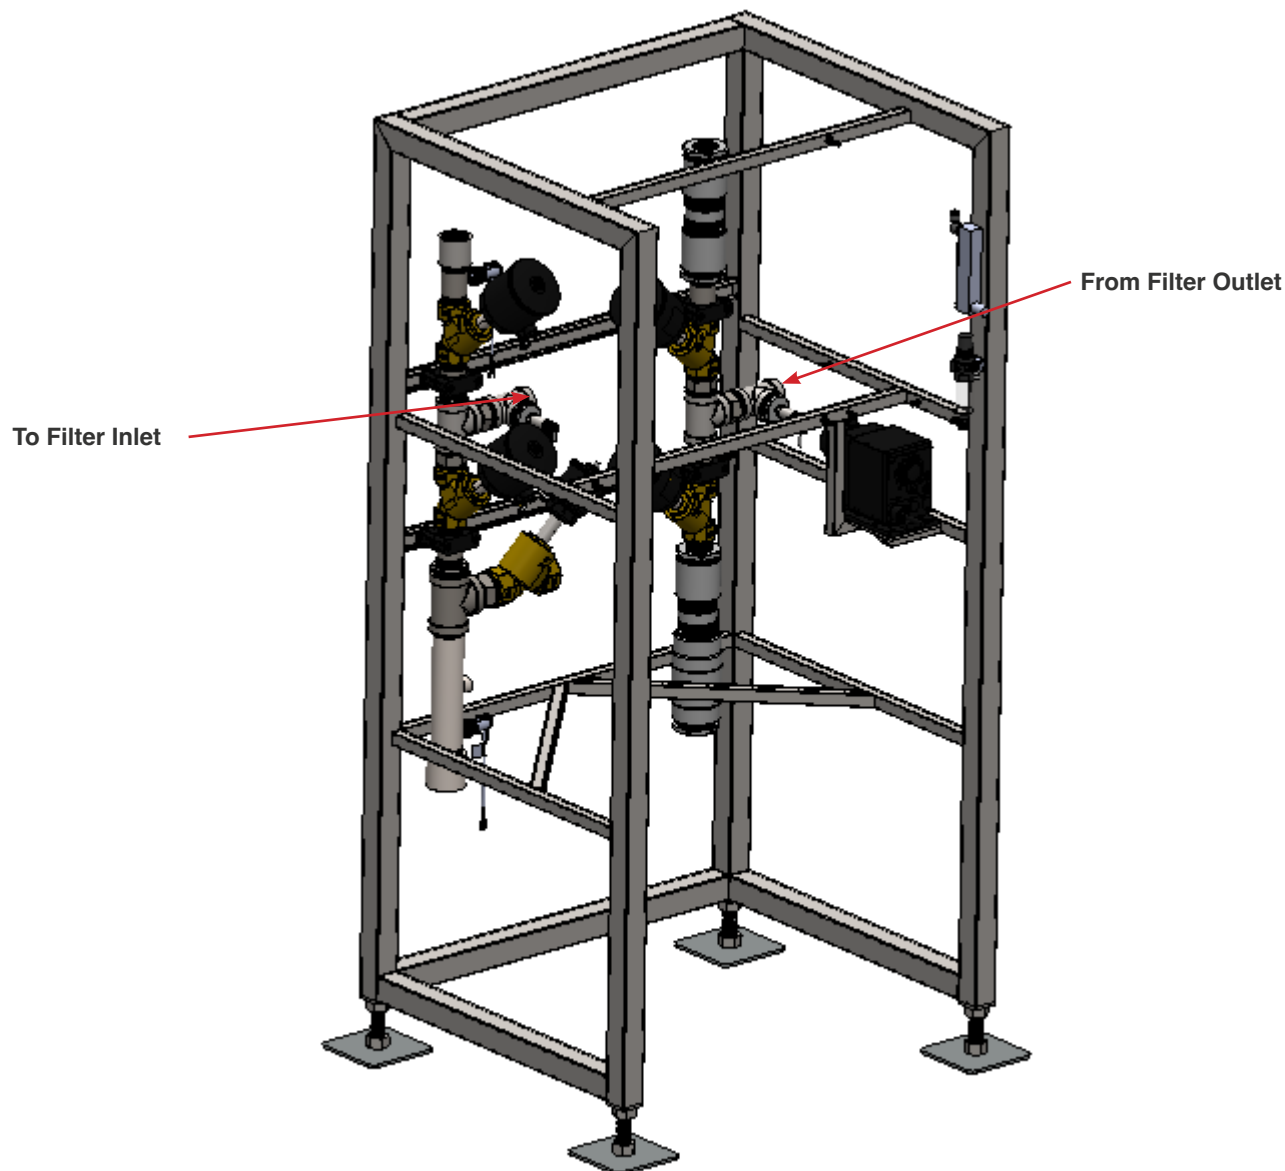

Fig. 3.3.6 - 1 - Main skid multimedia filter plumbing connections
1. Plumb the unfiltered water from the **To Filter Inlet** connection to the **DOWNFLOW INLET** side of the filter (Fig. 3.3.6 - 1, following page).